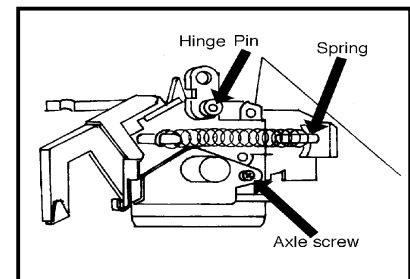

Figure 2
3. Remove the spring (Fig 2) from the separator card end of the cartridge, and unfasten only one end of the spring on the other end of the cartridge.
4. Remove the small hinge-pin from the separator card end of the cartridge (Fig 2).